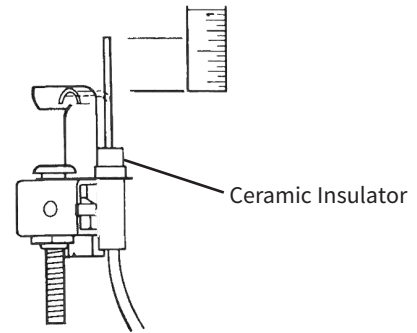

Figure 7
- B. Measure down the ignitor/sensor rod this distance plus 1/16" to allow for bend radius Figure 7. DO NOT BEND YET.